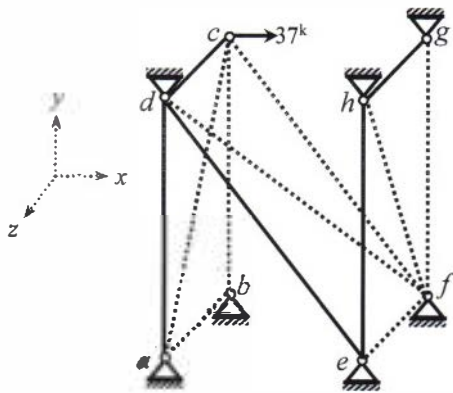

Fig.1
- Ignore zero-force members of the space truss *abcdefgh* as shown in Fig.1 and apply boundary conditions to formulate stiffness matrix and load vector [Given: $S_x = 1200$ k/ft. Nodal Coordinates (ft) are $a(0,0,0)$, $b(0,0,-10)$, $c(0,20,-10)$, $d(0,20,0)$, $e(15,0,0)$, $f(15,0,-10)$, $g(15,20,-10)$, $h(15,20,0)$].